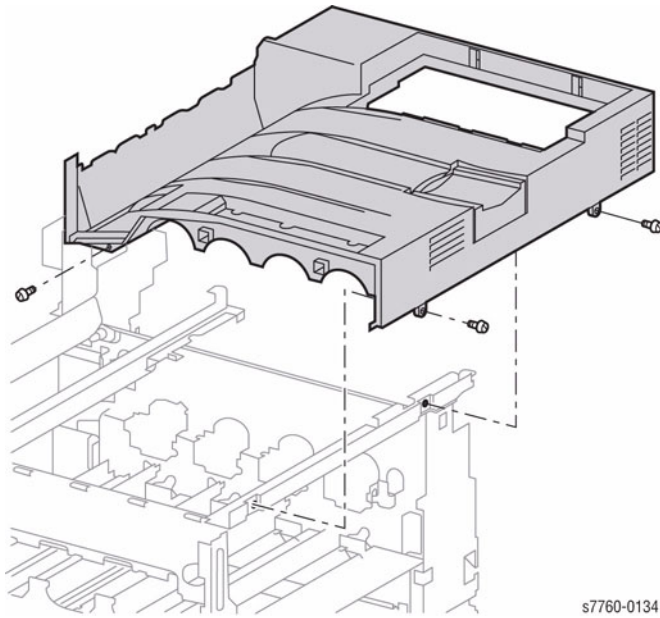

Figure 1 Removing Top Cover
6. Remove the Top Cover (Figure 1).